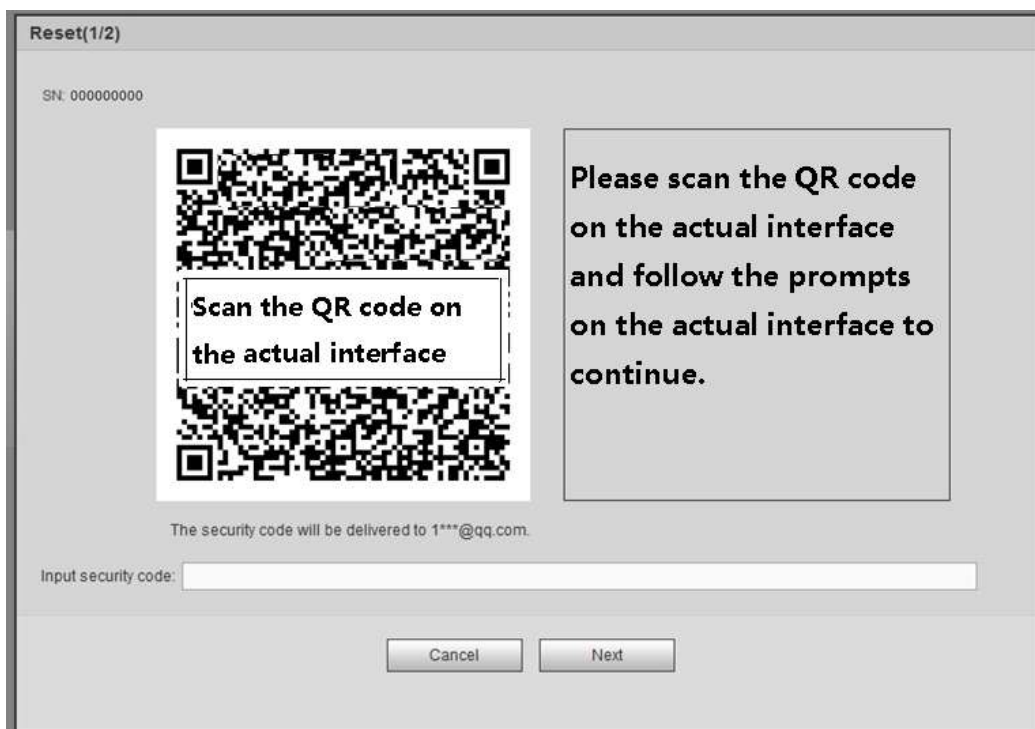

Figure 5-7
Step 2 Click Forgot password, enter the following interface. See Figure 5-7.